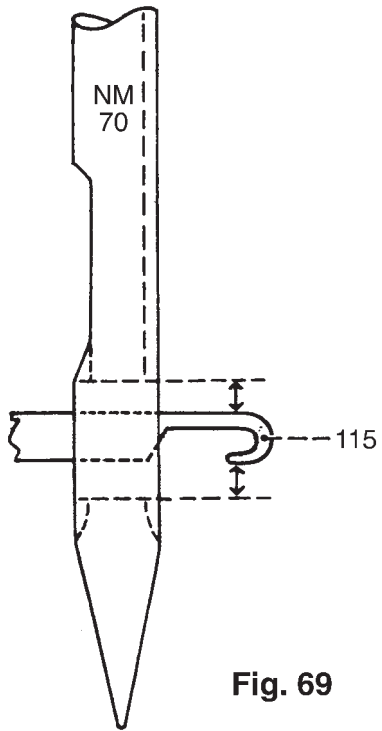

Fig. 69
With the threader lever pushed fully down, prong 115 must pass through in the center between the top and bottom edge of the needle eye of a size 70 needle (fig. 69).
- Push threader bracket 123 upward or downward until prong 115 has the same distance from the top and bottom edge of the needle eye (fig. 69).